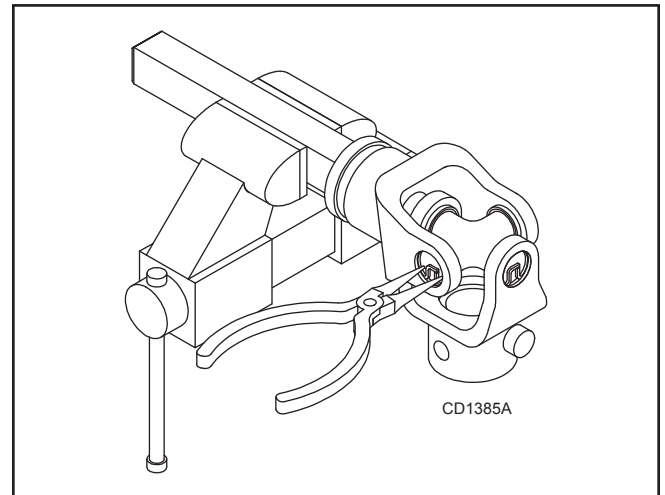

Figure 24.
1. Remove external snap rings from yokes in four locations as shown in Figure 24.